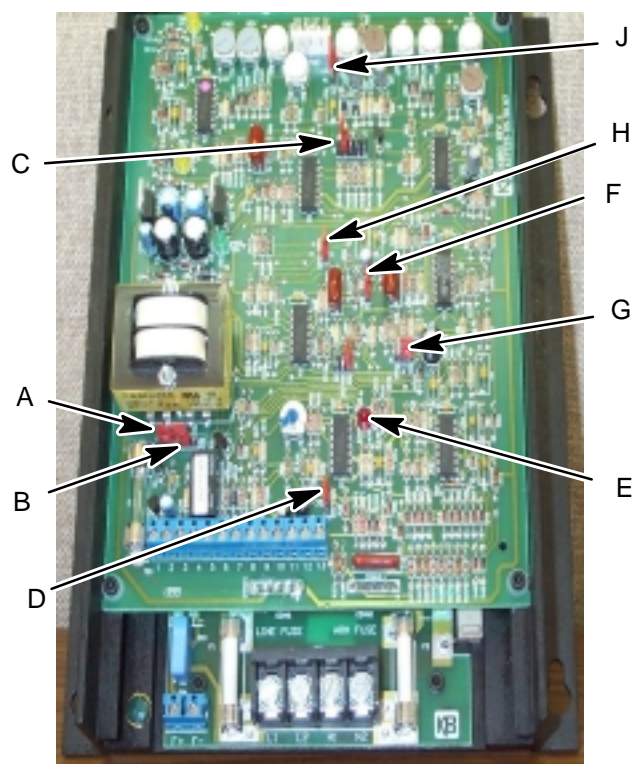

Fig. 1 Control Board Jumper Locations Photo
1. Set new control board jumpers per Table 1, control board jumper locations locations. See figs. 1 and 2.